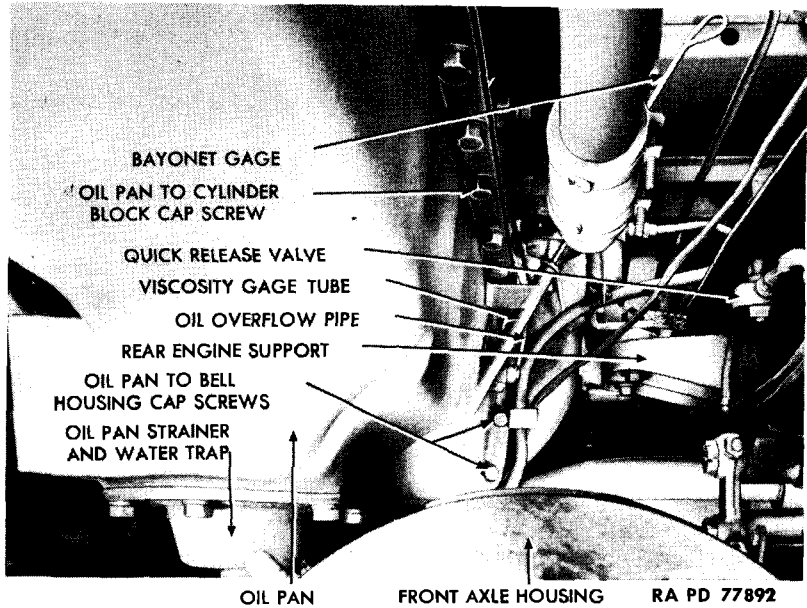
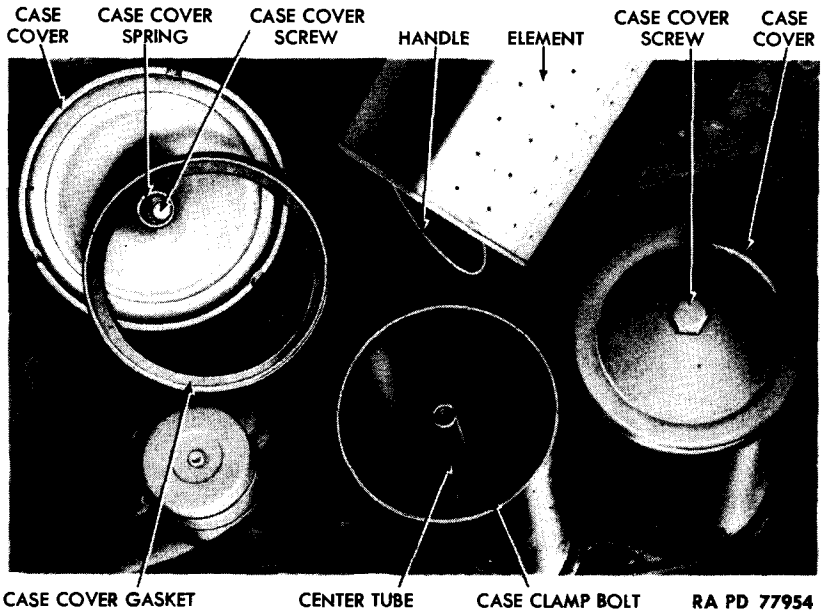
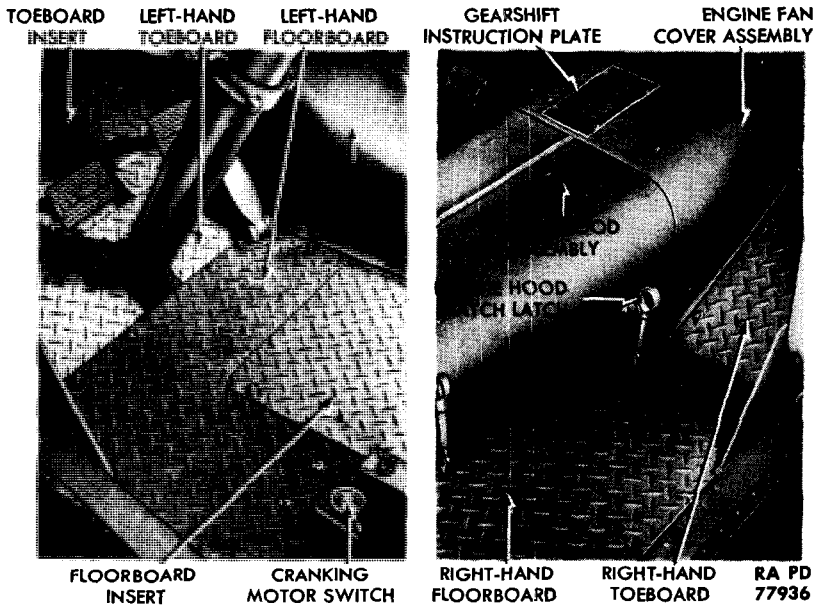

Figure 16 — Oil Pan Installed
Figure 17 — Oil Filters Partially Disassembled
Figure 19 – Floor Boards and Engine Hood
(1) **REMOVE ENGINE HOOD** (fig. 19) (par. 48).
(2) **REMOVE RIGHT-HAND FLOOR BOARD** (fig. 19). Remove the six screws and lock washers which attach floor board to cab, and lift floor board from cab.
(7) **INSTALL RIGHT-HAND FLOOR BOARD** (fig. 19). Position floor board in cab, and install the six lock washers and screws.
(8) **INSTALL ENGINE HOOD** (fig. 19) (par. 50).
(1) **DRAIN OIL** (fig. 16). Remove drain plug from center of oil pan strainer and water trap, and remove drain plug from rear of oil pan.
(2) **REMOVE STRAINER AND WATER TRAP** (fig. 16). Remove six cap screws and lock washers. Lift strainer, water trap, and gasket from oil pan.
(5) **INSTALL STRAINER AND WATER TRAP** (fig. 16). Inspect gasket, and replace if torn or crushed. Position serviceable gasket, strainer, and water trap assembly in oil pan. Install the six lock washers and cap screws.
(1) **REMOVE BAYONET GAGE.** Remove floor board insert (fig. 19), and pull bayonet gage (fig. 16) from its boss in oil pan.
(2) **DRAIN ENGINE OIL** (fig. 16). Remove drain plug and gasket from oil pan strainer and water trap. Remove drain plug and gasket from rear of oil pan.
(3) **DISCONNECT OIL OVERFLOW PIPE AND VISCOMETER GAGE TUBE** (fig. 16). Lines run from oil filter fitting on left side of oil pan. Unscrew both from fitting.
(4) **REMOVE OIL-PAN-TO-BELL-HOUSING CAP SCREWS** (fig. 16). Three are located on each side and one at lower center, each installed with a lock washer. Remove all.
(5) **REMOVE OIL-PAN-TO-CYLINDER-BLOCK CAP SCREWS** (fig. 16). There are 26 screws, each with a lock washer. Remove all screws.
(6) **REMOVE OIL PAN AND GASKETS** (fig. 16). Lower oil pan to floor, and remove the two side gaskets and front cork. **CAUTION: Do not damage or attempt to remove cork from bell housing.**
(2) **PLACE OIL PAN IN POSITION** (fig. 16). Position oil pan, using care to keep from dislodging gaskets, and install to crankcase with two cylinder block cap screws and lock washers. Tighten screws only fingertight, because their function is to hold oil pan in an approximately correct position.
(3) **INSTALL OIL-PAN-TO-BELL-HOUSING CAP SCREWS** (fig. 16). Tighten the seven screws, each assembled with a lock washer, alternately and securely.
(4) **INSTALL OIL-PAN-TO-CYLINDER-BLOCK CAP SCREWS** (fig. 16). Tighten the 26 screws, each assembled with lock washer, alternately and securely.
(5) **CONNECT OIL OVERFLOW PIPE AND VISCOMETER GAGE TUBE** (fig. 16). These lines run from fitting on left side of oil pan. Tighten both securely.
(6) **INSTALL BAYONET OIL GAGE** (fig. 16). Insert gage into its boss on left side of oil pan.
(9) **INSTALL FLOOR BOARD INSERT** (fig. 19). Position insert on left-hand floor board, and tighten the two wing screws which clamp it in place.
(3) REMOVE OIL FILTER ELEMENT (fig. 17). Remove floor board insert (fig. 19), and unscrew oil filter case cover screw. Lift cover and gasket from case. Grasp handle on top of oil filter element, and pull element from case.
(4) INSTALL OIL FILTER ELEMENT (fig. 17). Insert oil filter element, handle end up, into oil filter case. Place oil filter case cover
(1) **REMOVE FLOOR BOARD INSERT** (fig. 19). Loosen the two wing screws which clamp insert in place, and lift insert from floor board.
(6) **INSTALL FLOOR BOARD INSERT** (fig. 19). Position insert on floor board, and secure with two wing screws.
e. **Remove Engine Hood** (fig. 19). Remove the three screws, flat washers, and lock washers which secure left-hand side of hood to floor board frame. Disengage the two latches on right-hand side of hood.
f. **Remove Toeboards and Floor Boards** (fig. 19). Remove the 20 screws, 4 flat washers, 4 toothed lock washers, and 9 lock washers which secure toeboards and floor boards to cab frame. Lift out toeboards and floor boards.